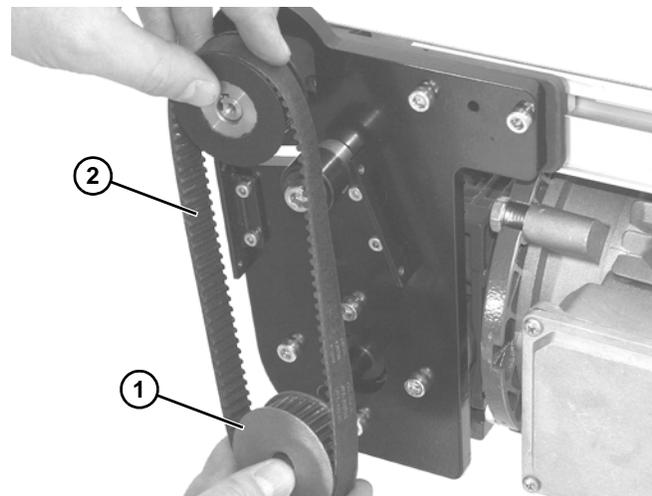

Figure 25
If drive pulley (**Figure 25, item 1**) is replaced, wrap timing belt around drive pulley and complete step 3.
3. Loosen drive pulley (**Figure 25, item 1**) set screws. Remove drive pulley and timing belt (**Figure 25, item 2**).
Drive pulley (Figure 25, item 1) is removed. Wrap timing belt around drive pulley and complete step 9.
Drive pulley (**Figure 25, item 1**) is removed. Wrap timing belt around drive pulley and complete step 9.